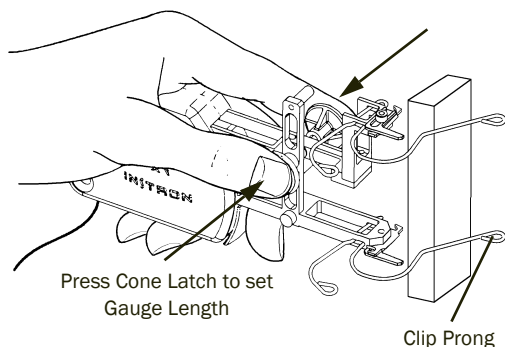

Figure 9. Single-Handed Installation
2. Hook the wire clip prongs behind the specimen as shown in Figure 9.